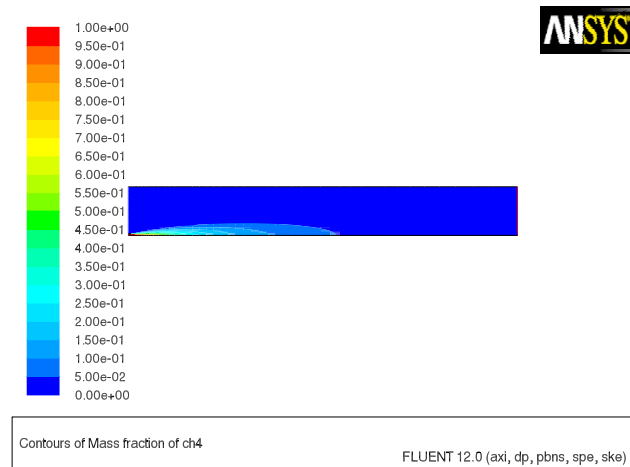

Figure 14.8: Contours of CH_4 Mass Fraction
6. Display filled contours of mass fraction for CH_4 (Figure 14.8).